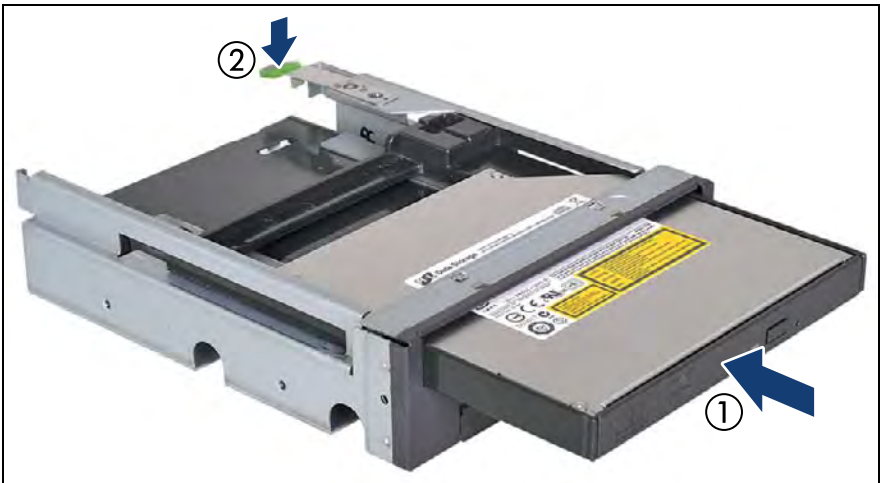

Figure 422: Mounting the slimline ODD module in the Multibay box
- ▶ Insert the slimline ODD dummy module into the Multibay box and push back until the locking tab engages as shown in figure 422 on page 553.